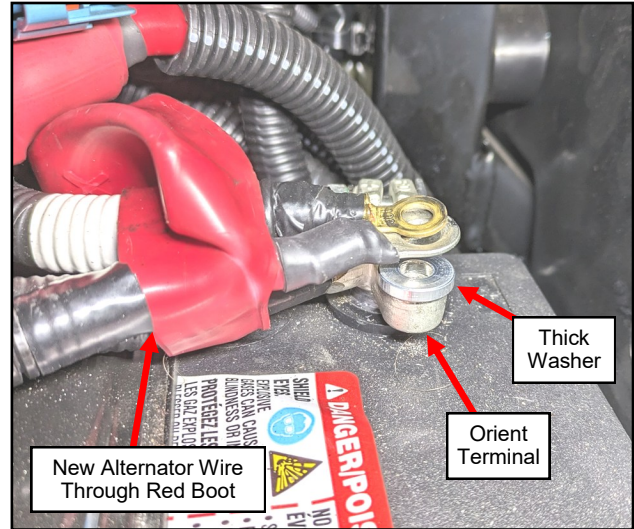

Fig. 4.1 (Install Positive Wires)
- 4.1 Unbolt positive wires from the positive battery terminal. Make sure the battery terminal is oriented as shown in figure 4.1. Loosen and rotate if necessary.
- 4.2 Push one end of the supplied alternator power wire through the red OEM positive terminal boot as shown in figure 4.1. Prepare for the fuse mounting bar by placing the supplied thick washer between the battery terminal and the alternator power wires.